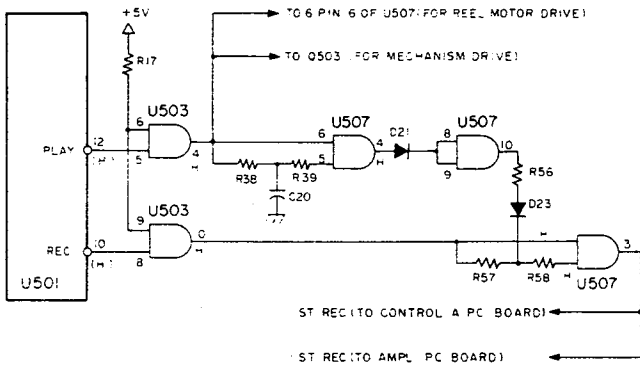

Fig. 4-2 REC/PLAY control circuit
When both the REC and PLAY buttons are depressed to set the tape deck to the record mode, an H level signal is developed at pin 12 (PLAY) of U501 and both the motors for mechanism and reel drives are controlled as mentioned under Playback Control Circuit. Meanwhile, the REC terminal, pin 10 of U501 also goes to H, and this makes pin 10 of U503 H. Therefore, pin 3 of U507 goes to H and this H level signal is applied as the record control signal to the Control PC Board (A) and the Amplifier PC Board. Refer to Fig. 4-2.